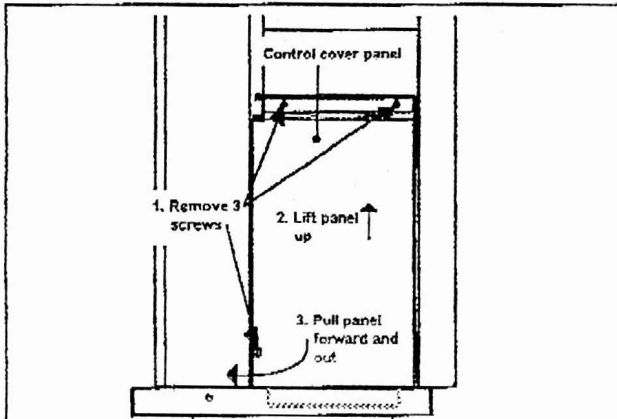

Fig. 8 Control cover panel removal
- 10.3 Detach the control cover panel (see figure 8):-